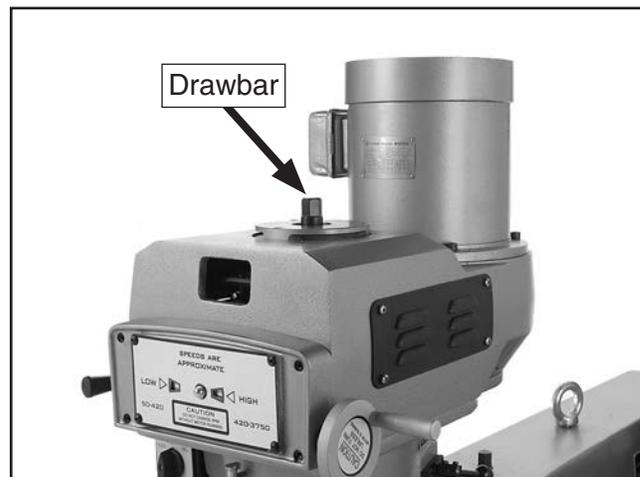

Figure 49. Drawbar inserted through the top of the spindle.
4. While holding the tool in place, insert the drawbar through the top of the spindle, as shown in **Figure 49**, then thread it into the tool.